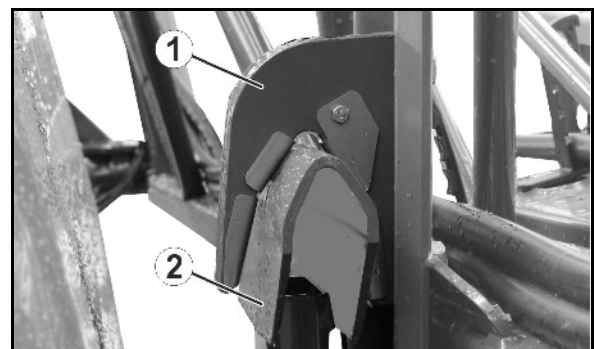

Fig. 81
- the catch hooks (Fig. 81/1) release the boom support (Fig. 81/2).
- the catch hooks (Fig. 81/1) latch onto the boom support (Fig. 81/2).